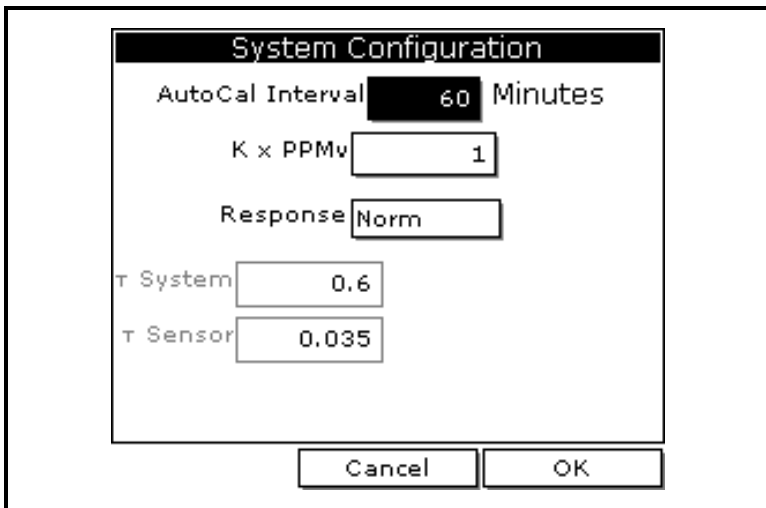

Figure 4-3: The System Configuration Window
3. Use the arrow key to scroll to System and press [ENTER]. A screen similar to Figure 4-3 below appears.